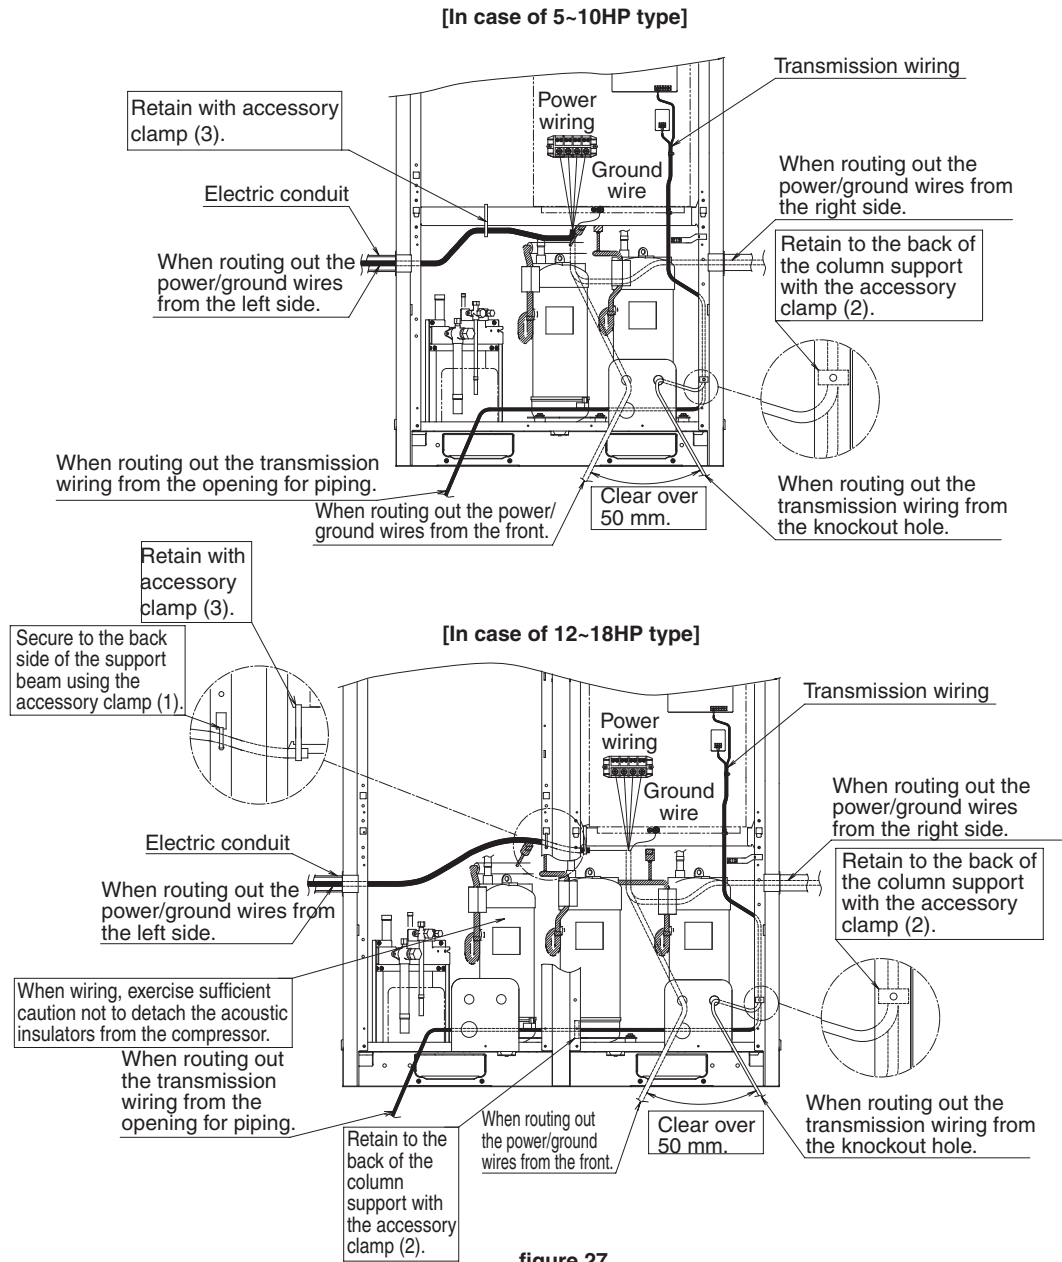

figure 27
- When two wires are connected to a single terminal, connect them so that the rear sides of the crimp contacts face each other. Also, make sure the thinner wire is on top, securing the two wires simultaneously to the resin hook using the included clamp (1).
- Referring to figure 27, secure and wire the power and transmission wiring using the included clamp (1), (2), and (3).
- Make sure all wiring do not contact to the pipes (hatching parts in the figure 27).